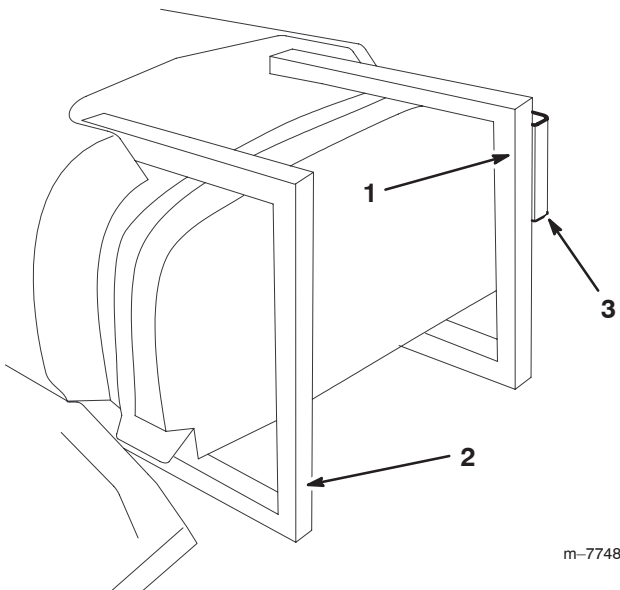

Figure 4
4. The supports should wrap around the rear end of the tank (Fig. 4).